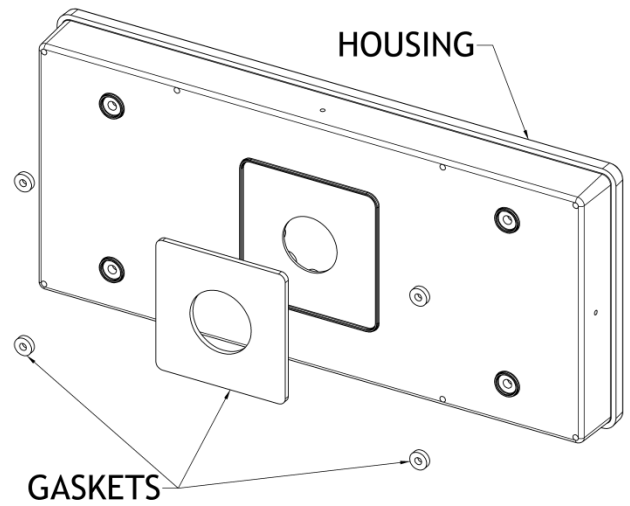

Figure 3
Mounting Place HOUSING over an installed electrical junction box (drill points provided for temporary j-box attachment prior to permanent mounting). Locate and drill 4 pilot holes in mounting surface using HOUSING as a template. (Fig.3): For wet location installation, attach self-adhesive pad GASKETS to HOUSING at (4) mounting holes and center wiring hole. Using ¼" fasteners and anchors appropriate for the mounting surface (not supplied), attach HOUSING to structure.